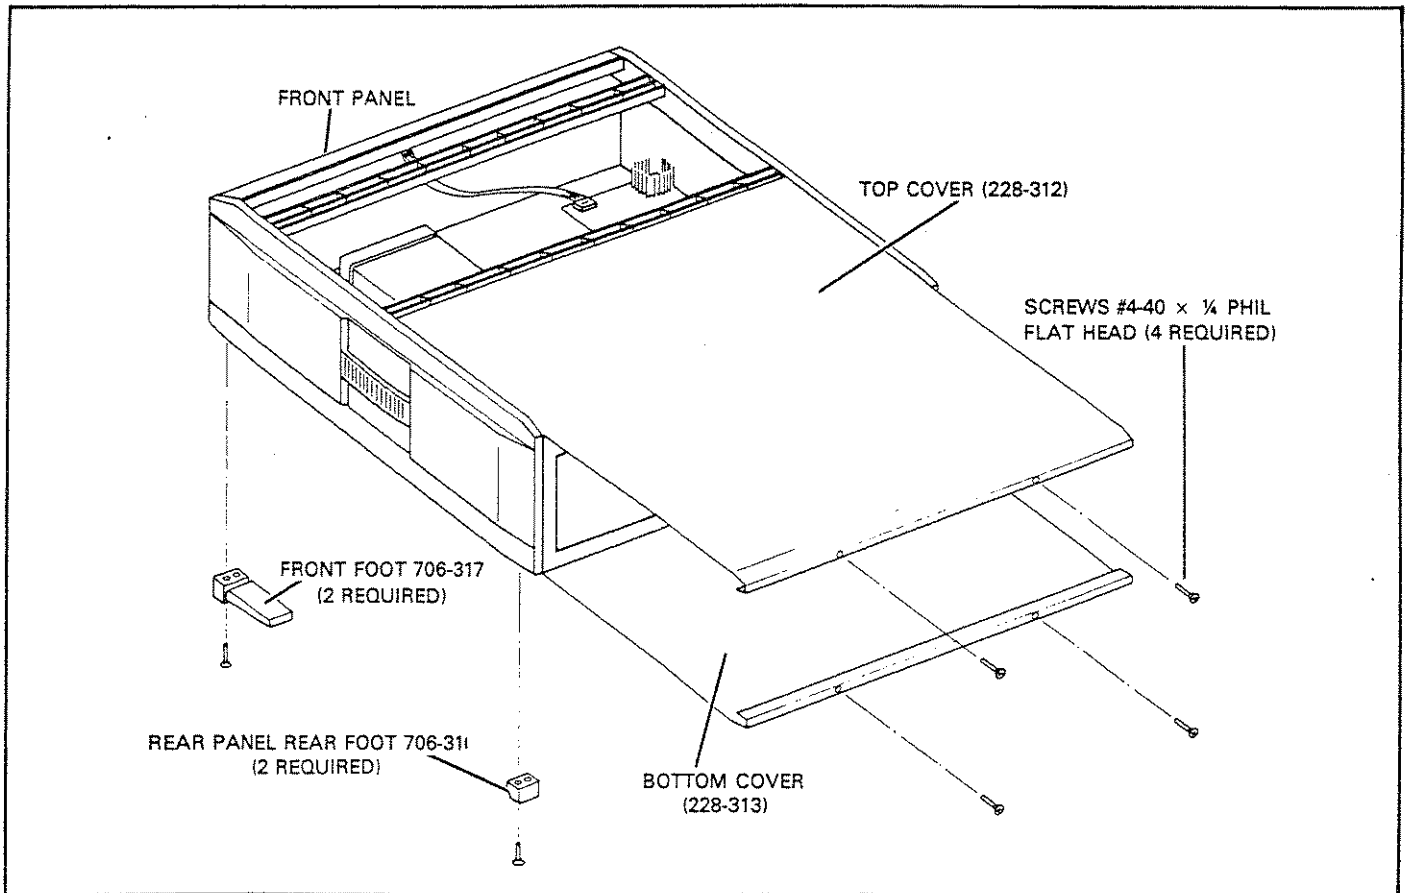

Figure 7-1. Top and Bottom Cover Removal
If it becomes necessary to disassemble the Model 228, use the following procedure. Also, refer to Figures 7-1 through 7-5. The following procedures allow only the parts that require disassembly to be disassembled. For example, if the digital board is to be removed, then refer to the procedure on removing the digital board. There are four basic methods to disassemble the Model 228. The methods consist of the following:
- B. Grasping the top cover at the rear of the instrument, carefully pull it out and away from the instrument. Refer to Figure 7-1.